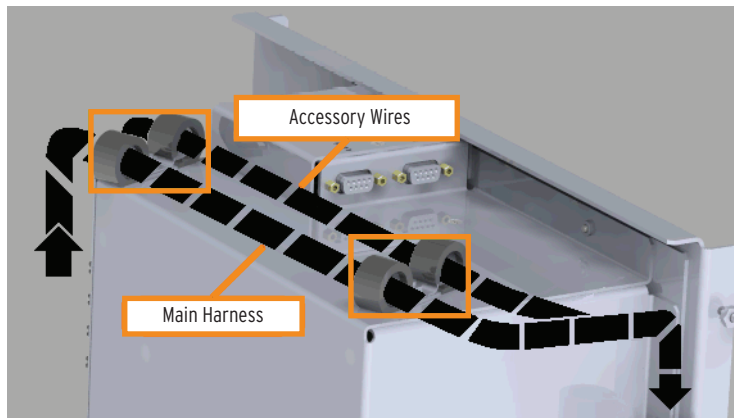

Figure 5 Secure Wires on Top of Control Module
- Step 9. Use the existing nuts to secure the wires to the top of the control module with the two accessory wire clamps (if they are not already installed). See *Figure 5*.